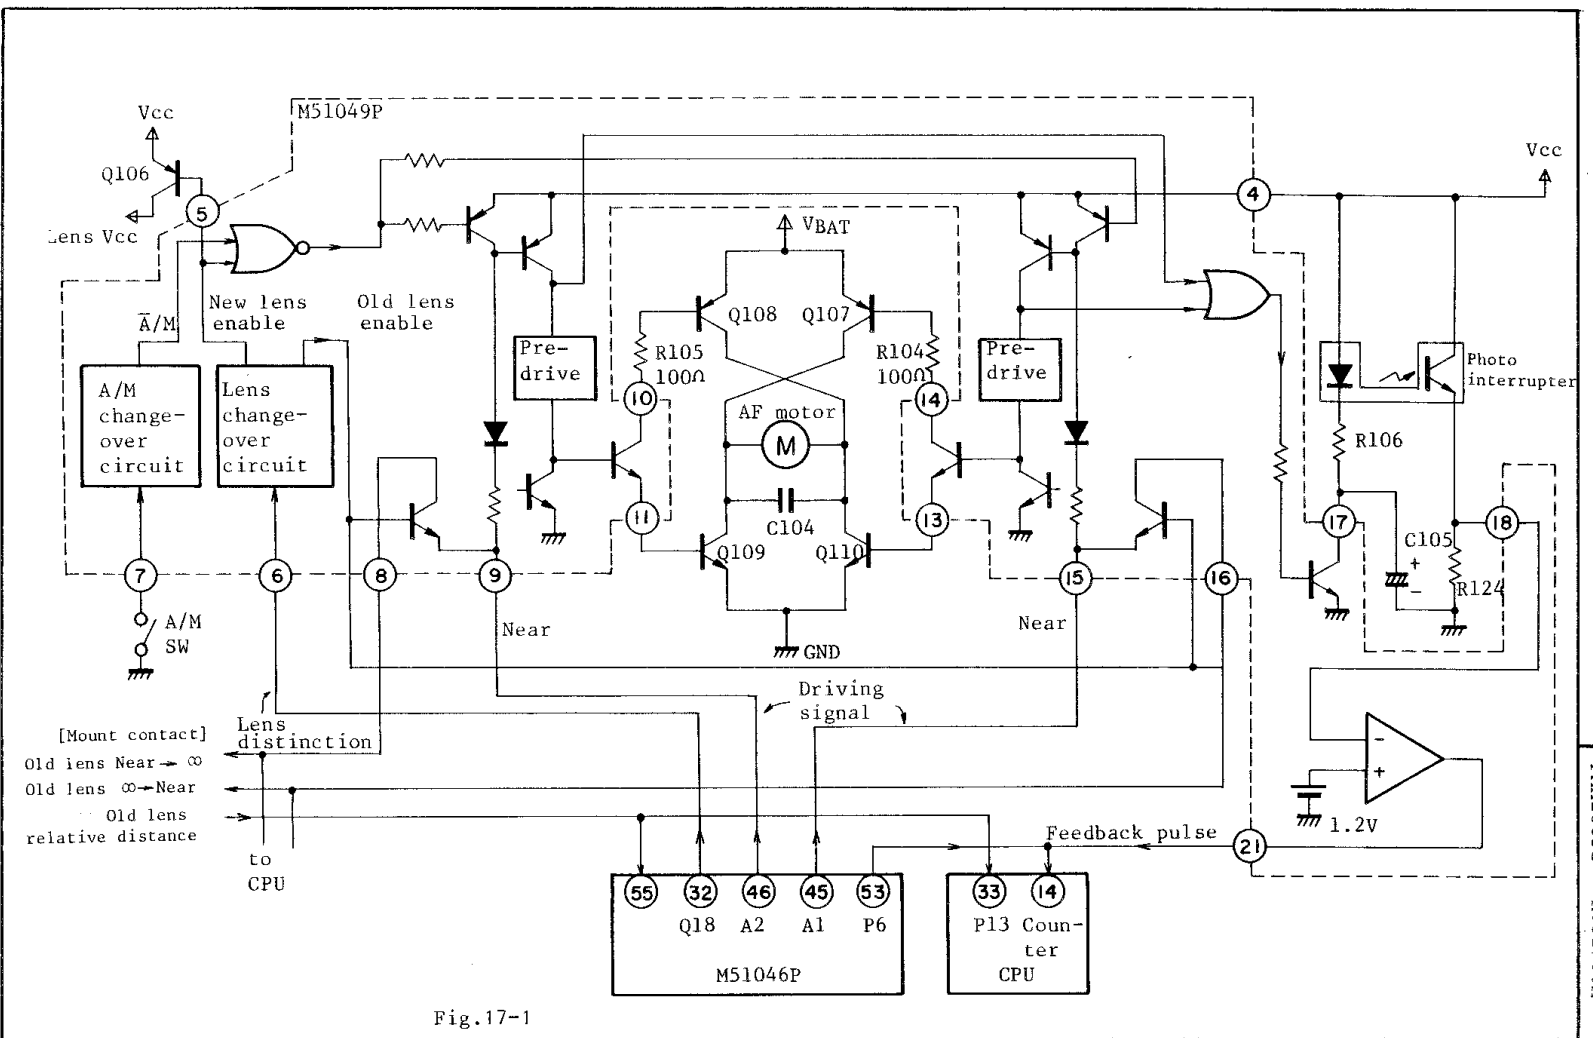

Fig.17-1
17. AF lens driving control circuit (Fig.17-1)